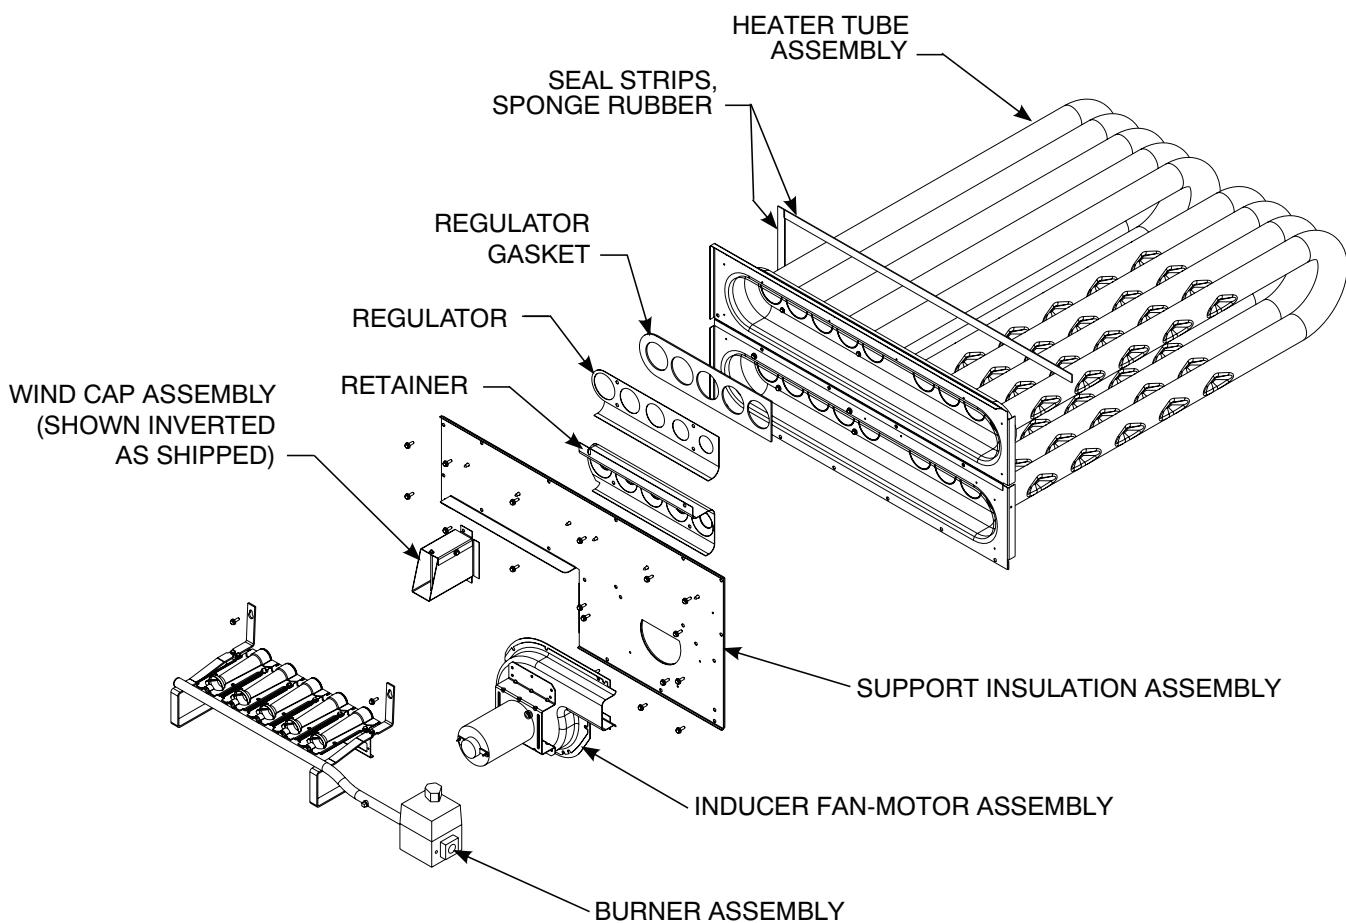
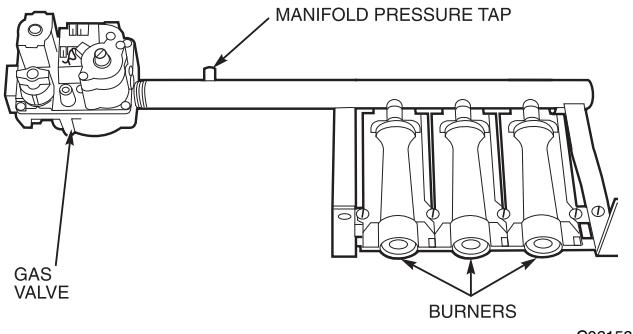

Fig. 60 - Typical Heat Exchanger Assembly Sizes 04-14
Fig. 63 - Burner Tray Details
1. Remove the combustion blower wheel and motor assembly according to directions in Combustion-Air Blower section. See Fig. 60.
2. Remove the 7 screws that attach induced-draft motor housing to vestibule plate. See Fig. 60 and 61.
See Fig. 55, Fig. 60 and Fig. 63.
- Remove the 2 screws that attach the burner rack to the vestibule plate. See Fig. 60.
- Slide the burner tray out of the unit See Fig. 63.
1. Remove manifold pressure tap plug from manifold and connect pressure gauge or manometer. See Fig. 63.
10. Turn off unit, remove pressure manometer and replace the 1/8 in. pipe fitting on the gas manifold. See Fig. 63.